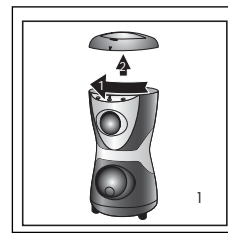
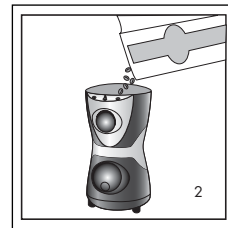

fig.1
fig.2
- Turn the lid in a clockwise direction and remove (fig. 1). Fill the container with the desired amount of coffee beans (fig. 2). (approx. 1 tbsp per cup).